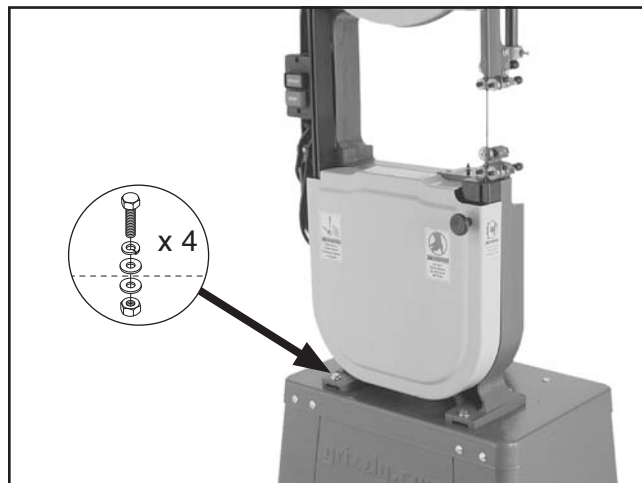

Figure 13. Bandsaw assembly attached to the stand.
8. Secure the bandsaw assembly to the stand with (4) M8-1.25 x 35 hex bolts, (8) 8mm flat washers, (4) 8mm lock washers, and (4) M8-1.25 hex nuts, as shown in **Figure 13**.